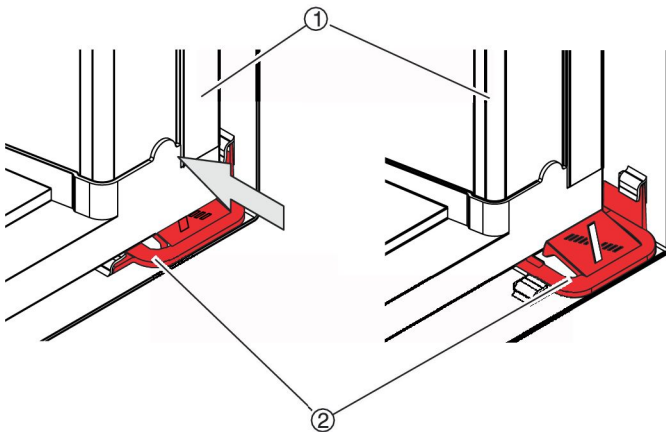

Fig. 23: Filter element locks in place
6. ▶ Push the new filter element (Fig. 23 /1) in and over the quick release fasteners (Fig. 23 /2) until it locks into place.